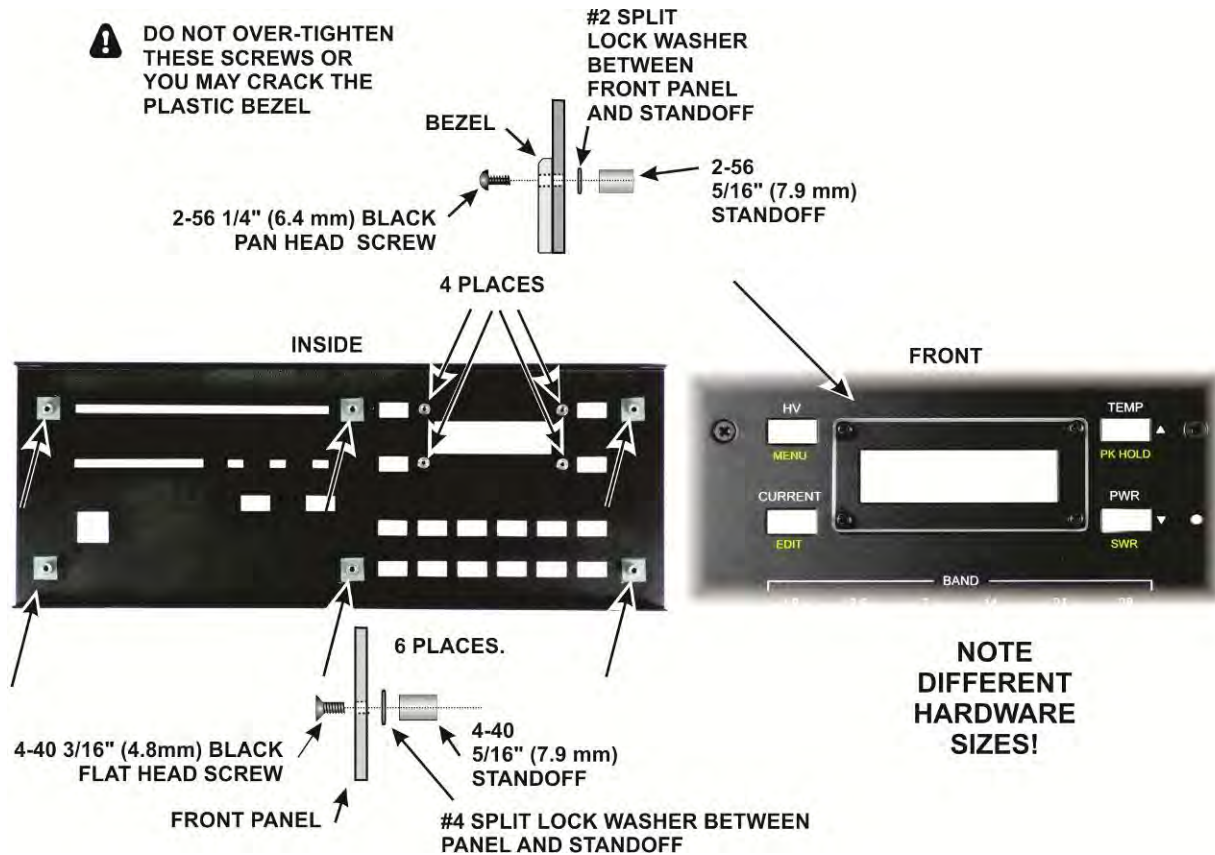

Figure 56. Installing the Front Panel Standoffs and Bezel.
- Install the standoffs in the inside of the front panel as shown in Figure 56. Include the plastic bezel on the front held by the four 2-56 screws.